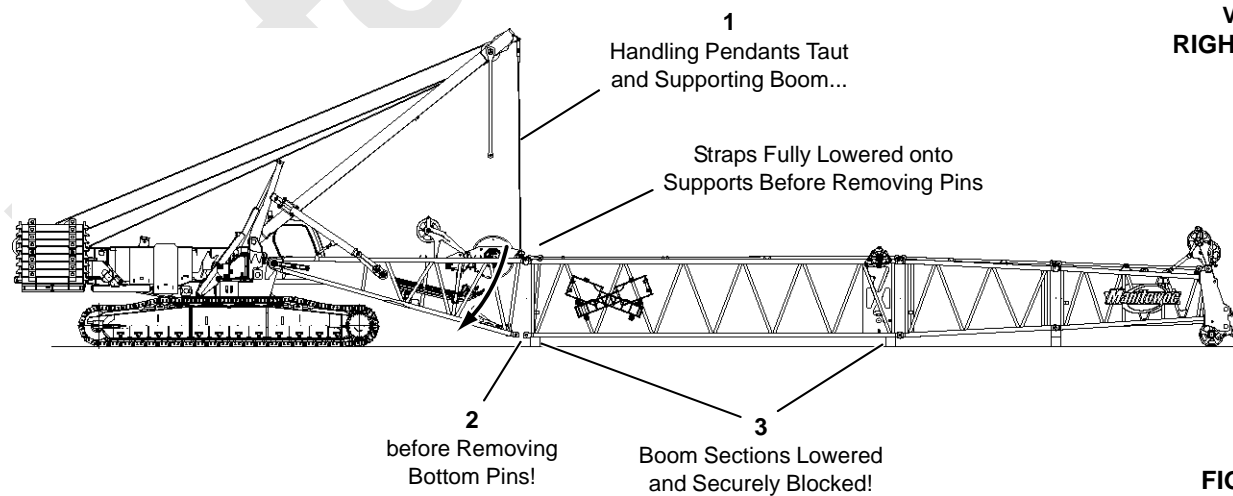

FIGURE 2-1
- Do not remove bottom connecting pins from any boom section when boom is supported by straps as shown in Figure 2-1, View A.
- Do not remove strap connecting pins until straps are fully lowered into supports as shown in Figure 2-1, View C.
- Do not remove bottom connecting pins from any boom section when boom point is resting on ground and handling pendants are slack as shown in Figure 2-1, View B.
- Never work or stand inside boom unless it is lowered and securely blocked as shown in Figure 2-1, View C.